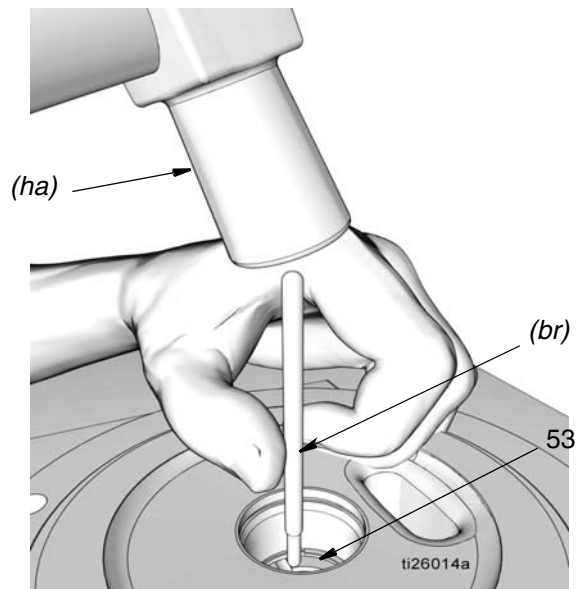

FIG. 29
- 20. Use a soft brass rod (*br*) and hammer to gently tap the pump element sleeve (53) out of the pump base (1) (FIG. 29).